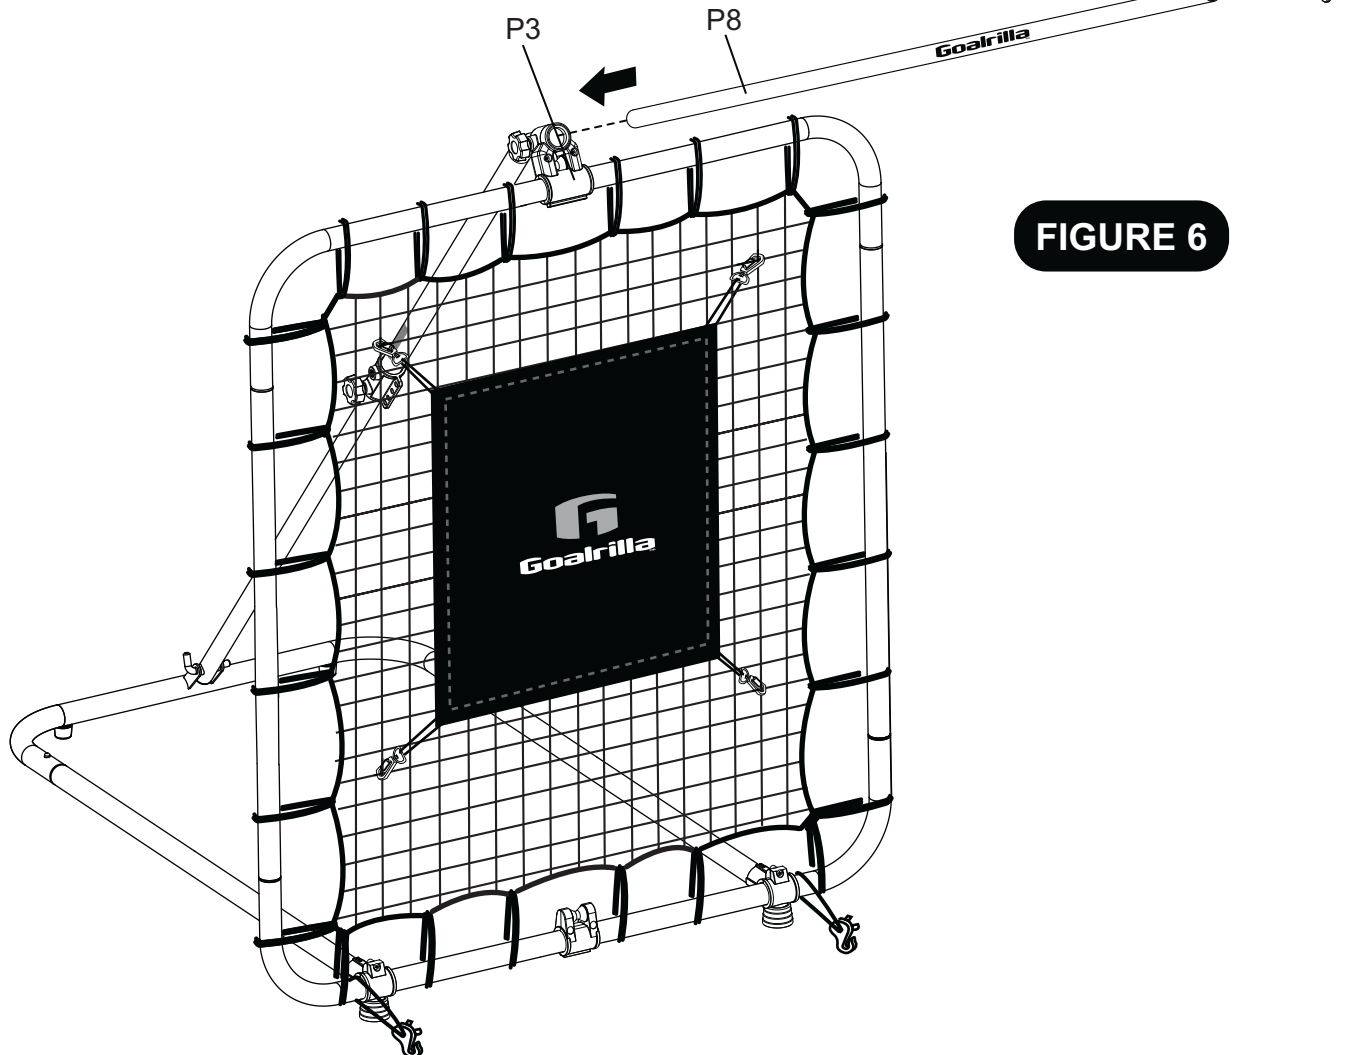

FIGURE 6
Install **P8** Tube into **P3** Roller Assembly as shown in **FIGURE 6**.
Install **P13** Roller Assembly onto end of **P8** Tube as shown in **FIGURE 6**.
- To raise the ball, pull down on the upper cord until there is slack between your hand and the **P6** connector piece. Then pull the slack through **P6** from the bottom until the ball is at desired height as shown in **FIGURE 6**.